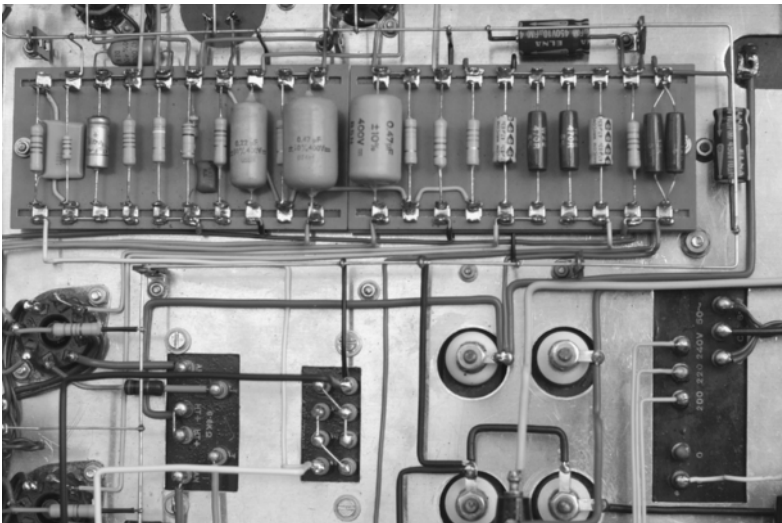

Figure 3.35
technique reduces capacitances compared to method (1), but can take up significant space (see Figures 3.35 and 3.36).
3. Methods (1) and (2) had regimented rows of components enforced upon them by the layout of the tags on the boards. If that restriction is waived, then a small resistor no longer takes up the same amount of space as a large coupling capacitor and space is saved. The hidden wiring becomes copper tracks and the board becomes a printed circuit board (PCB).